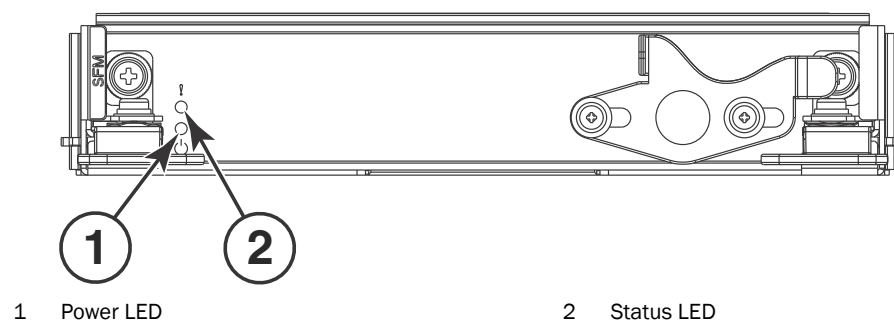

FIGURE 16 Switch fabric module
1. Check the LED indicators on the SFM (refer to Figure 16). The LED patterns may temporarily change during POST and other diagnostic tests. For information about how to interpret the LED patterns, refer to Table 12.
Figure 16 identifies the switch fabric module.